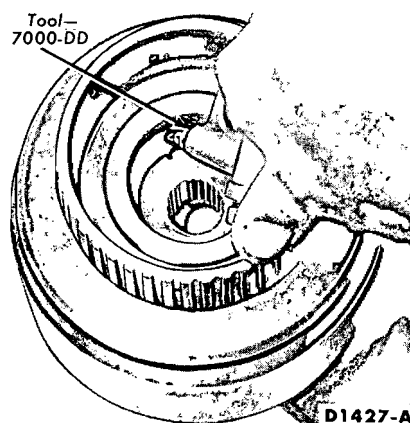

FIG. 60—Removing Forward Clutch Piston
4. Apply air pressure to the clutch apply passage in the cylinder (Fig. 60) to remove the piston.